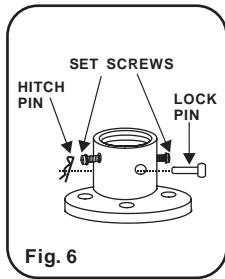

Fig. 6
Step 2. Loosen the two set screws and remove the hitch pin and lock pin from the top coupling of the motor assembly. (Fig. 6)